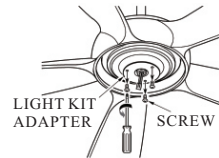

FIG.12
- 2.Remove 3 screws on light kit adapter.(see Fig.12)